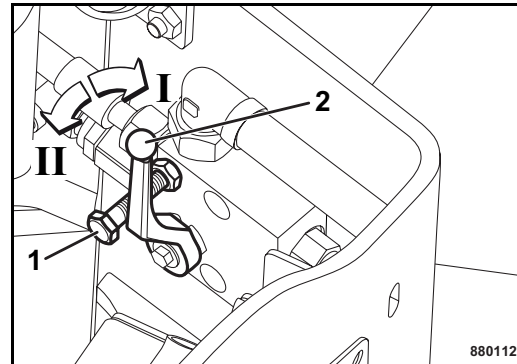

Fig. 106
- Unscrew the fastening screw (1) (Fig. 106).
- Switch the ball valve (2) over.